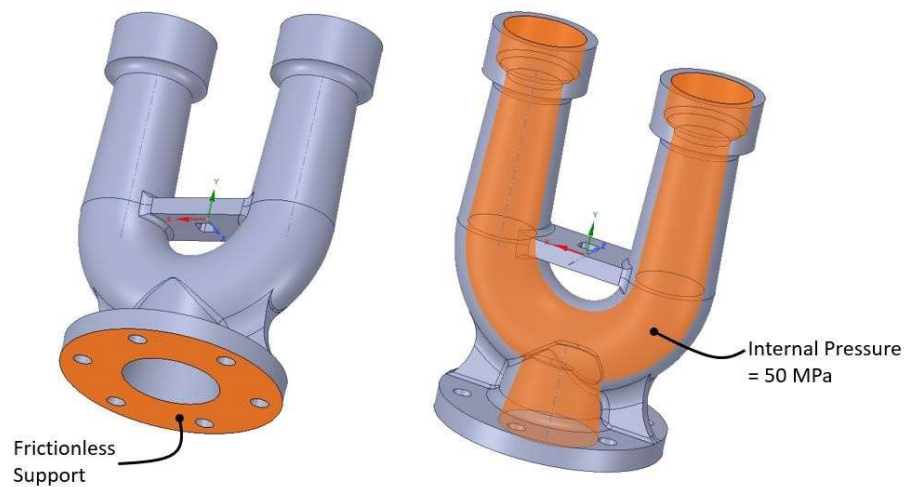

Figure 2
**Part A** – Determine the peak equivalent stress with high accuracy; that is within  $\pm 1\text{MPa}$ . As shown in Figure 2, impose a frictionless support on the bottom surface. All internal surfaces are subject to an internal pressure of 50 MPa. For the purposes of this assignment ignore end effects at the pipe ends. Also, ignore stress risers on and near the frictionless support. You must devise and perform your stress analyses on a  $\frac{1}{4}$ -symmetry model with appropriate symmetry boundary conditions.